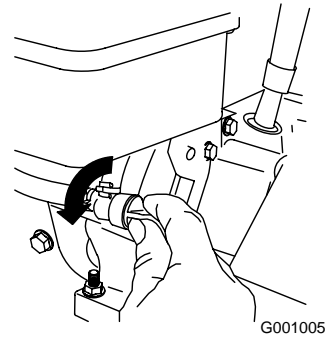

Figure 26
3. Rotate the fuel shutoff valve counterclockwise to open it (Figure 26).